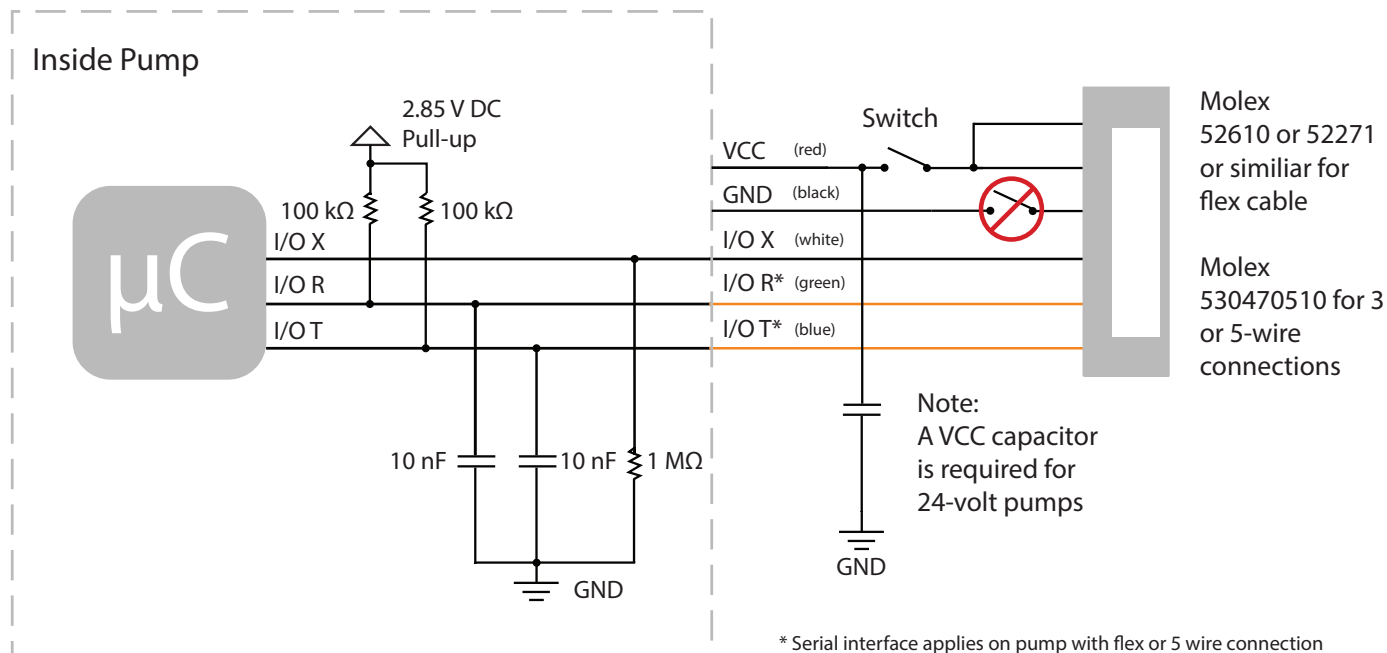

Figure 2: Electronic interface
2) Switch power on and off: The power must be switched on the VCC line (see Figure 2). The pump will be damaged if the switch is placed on the GND line. The capacitor has to be placed between VCC and GND on the pump side of the switch. This is because of the back EMF current that the electromagnet generates. Using this method of turning the pump off, it will not consume any power, but the microcontroller will perform the start-up procedure which takes up to 3 s (depending on default pump frequency) when the power is turned on. During this time, the pump adjusts the stroke length to reach its calibrated length. The regulation adjusts the stroke length for every pump stroke thus it depends on the pump frequency.
Xavitech recommends using a capacitor parallel to the power supply (see Figure 2) to reduce the power spikes generated by the electromagnetic motor. For 24-volt pumps, a VCC capacitor is required to not damage the pump. See the recommended capacitors sizes below.